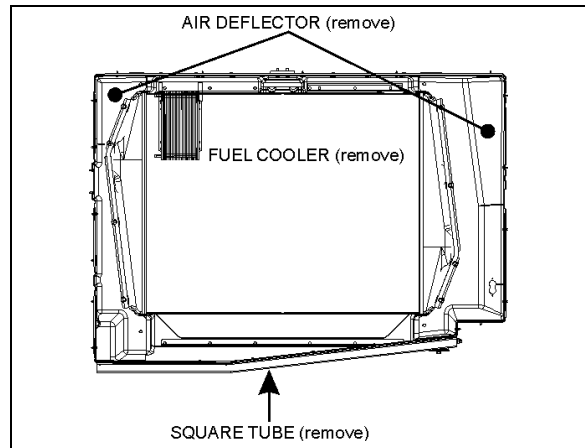

FIGURE 17: LOCATION OF SQUARE TUBE 05131
5. Open the radiator door and remove the door auxiliary arm (not the hinges) and lower square tube (see fig. 17).